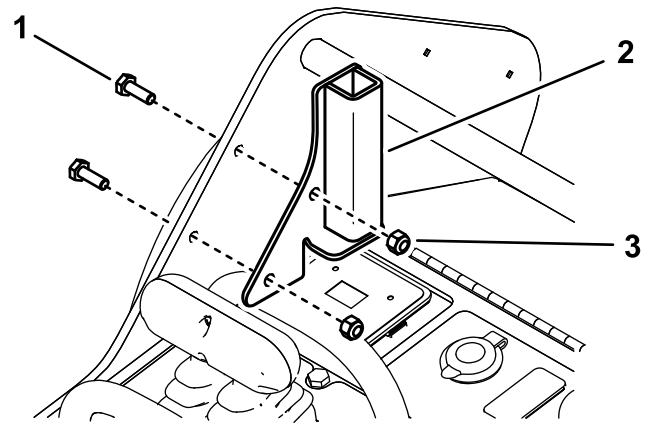

Figure 7
4. Install the right shield bracket on the right frame 2 bolts (1/4 x 3/4 inch) and 2 locknuts (1/4 inch), similar to Figure 7.
3. Install the left shield bracket on the left frame using 2 bolts (1/4 x 3/4 inch) and 2 Locknuts (1/4 inch) as shown in Figure 7.